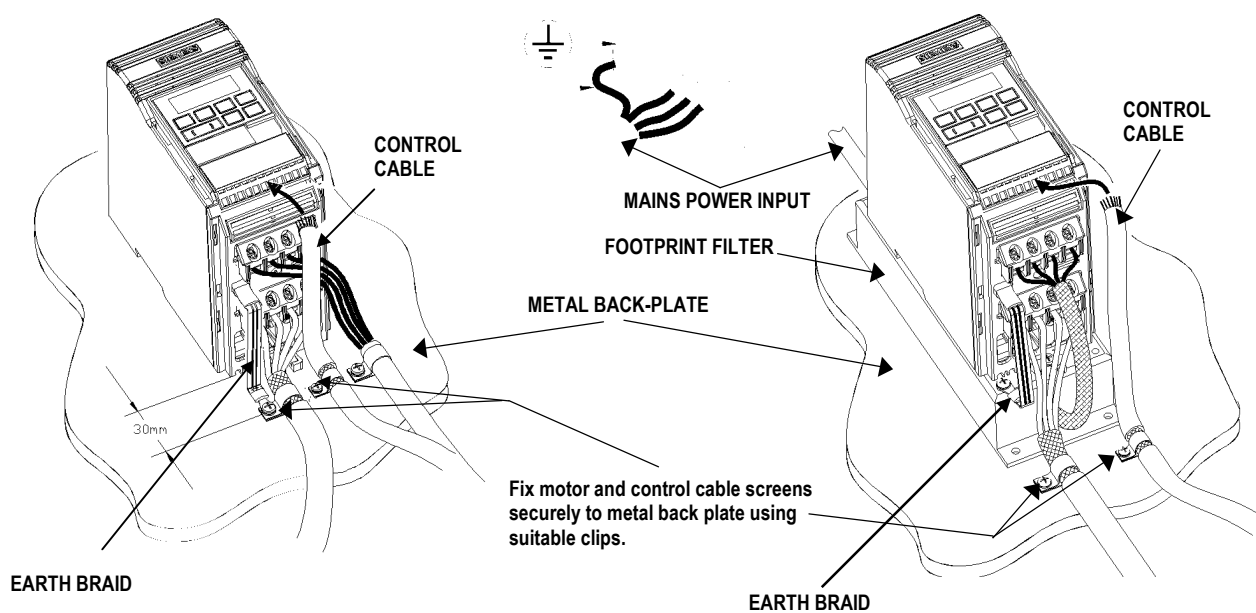

Figure 1.2.1: Wiring guidelines to minimise effects of EMI - MICROMASTER FSA
The inverters are designed to operate in an industrial environment where a high level of Electro-Magnetic Interference (EMI) can be expected. Usually, good installation practices will ensure safe and trouble-free operation. However, if problems are encountered, the following guidelines may prove useful. In particular, grounding of the system 0V at the inverter, as described below, may prove effective. *Figure 1.2.1- 3* illustrates how an RFI suppression filter should be installed.
- (2) Wherever possible, use screened leads for connections to the control circuitry. Terminate the ends of the cable neatly, ensuring that unscreened wires are as short as possible. Use cable glands whenever possible.
- (3) Separate the control cables from the power connections as much as possible, using separate trunking, etc. If control and power cables cross, arrange the cables so that they cross at 90° if possible.
- (4) Ensure that contactors in the cubicle are suppressed, either with R-C suppressors for AC contactors or 'flywheel' diodes for DC contactors, **fitted to the coils**. Varistor suppressors are also effective. This is particularly important if the contactors are controlled from the relay on the inverter.
- (5) Use screened or armoured cables for the motor connections and ground the screen at both ends via the cable glands.
- (6) If the drive is to be operated in an Electromagnetically noisy environment, the RFI filter should be used to reduce the conducted and radiated interference from the inverter. For optimum performance, there should be a good conductive bond between filter and metal mounting plate.
- (7) For FSA units (*Fig 1.2.1*), the flat earth braid strap, supplied with the unit, should be fitted to minimise emissions.